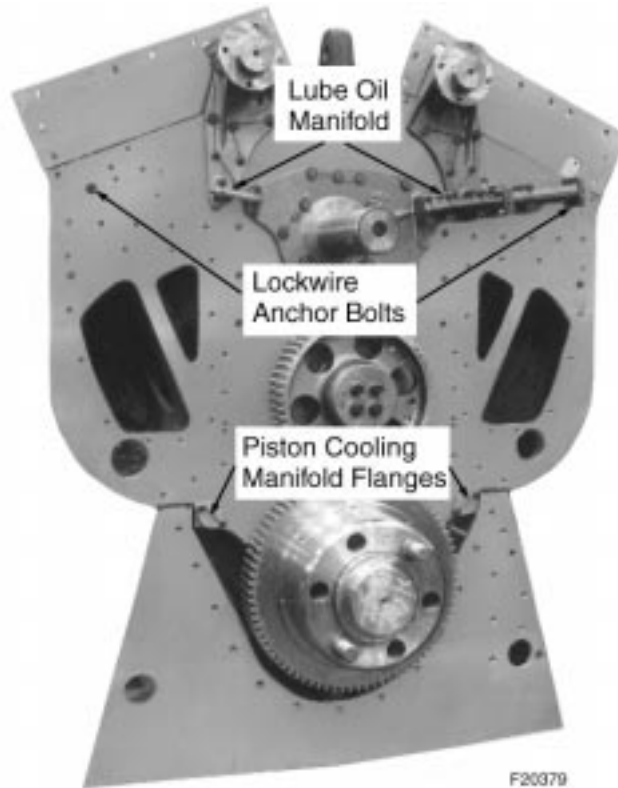

Figure 7-12. Lube Oil Manifold Application
1. If the flanges covering the piston cooling manifold openings on the crankcase end plate have been removed, install the flange gaskets, flanges, and 3/8"-24 bolts, Figure 7-12., "Lube Oil Manifold Application" on page 7-25. Torque the bolts to specified value and lockwire.
3. Install the previously assembled manifold section and the stubshaft to left bank camshaft oil line, Figure 7-12, being sure to place gaskets under the manifold sections. Tighten the 3/8"-24 bolts to specified value and lockwire.
4. Install two 1/2"-20 bolts, Figure 7-12, and tighten to specified value. These bolts will be used for an anchor for lockwiring camshaft drive housing to crankcase bolts.